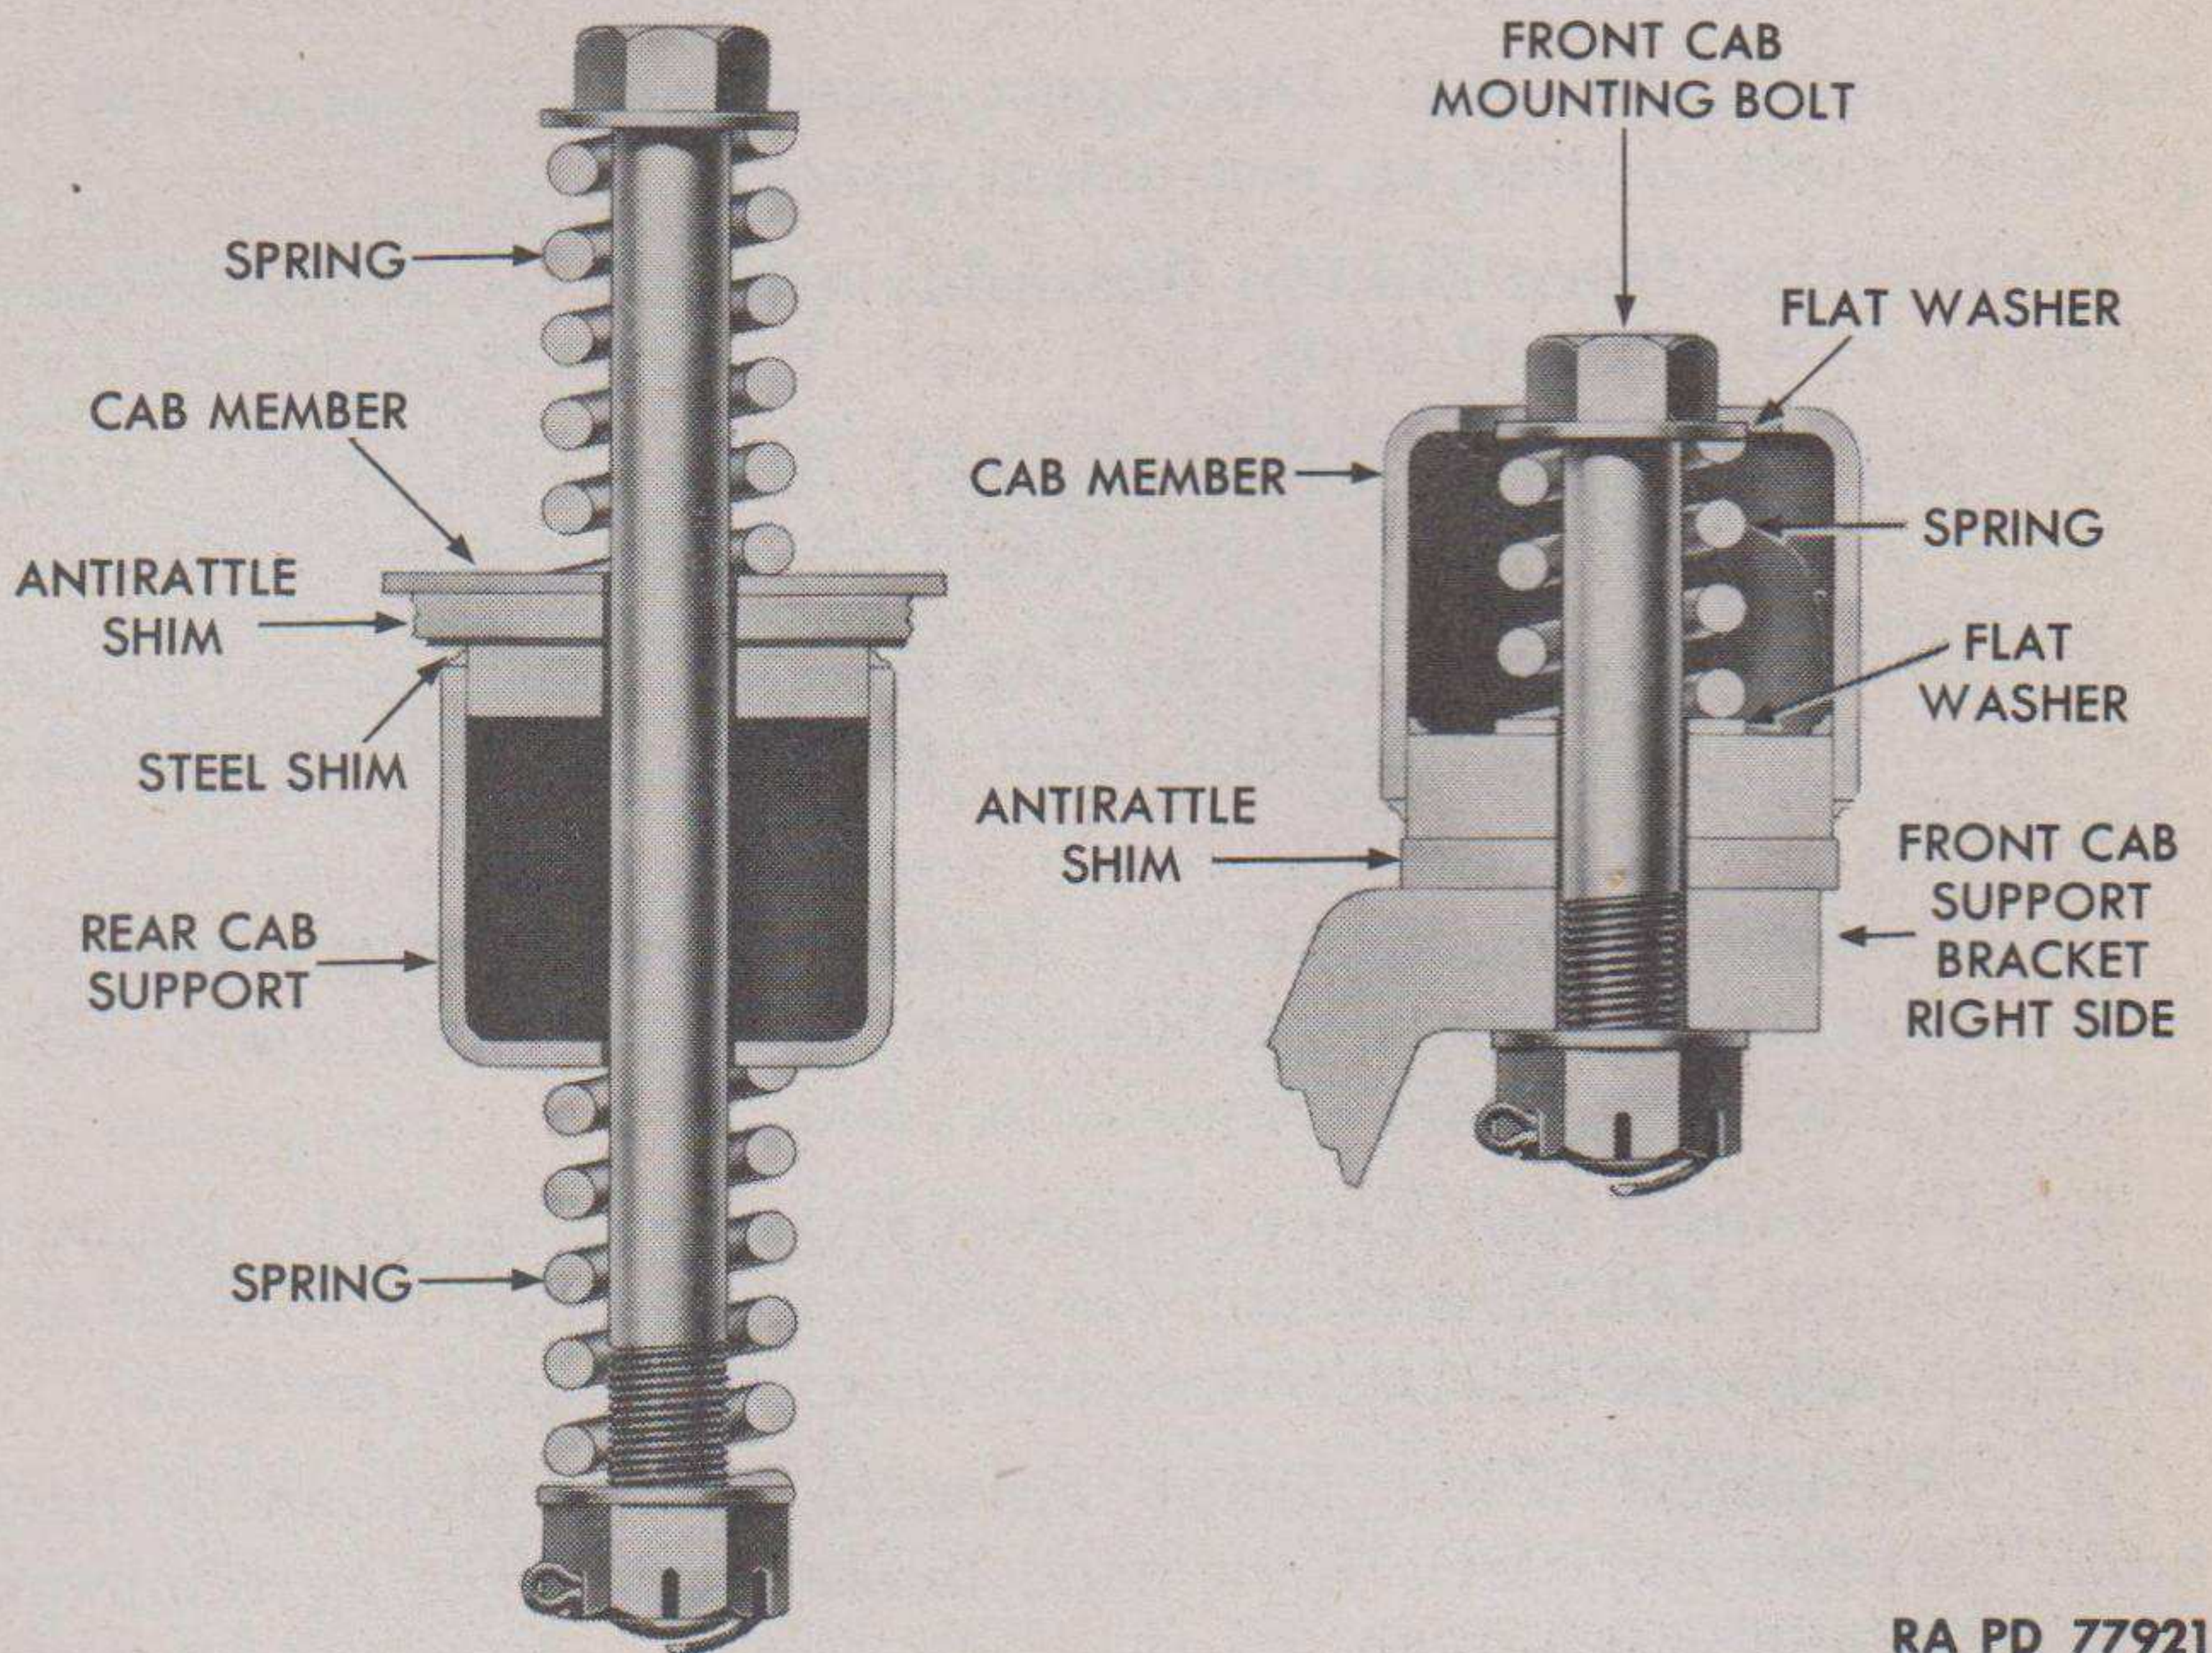

Figure 78 – Cab Mountings – Sectionalized View
x. **Disconnect Cab From Support Brackets** (fig. 78). Remove cotter pin, nut, bolt, springs, and flat washers securing cab to right and left front cab support brackets and to rear cab support bracket.